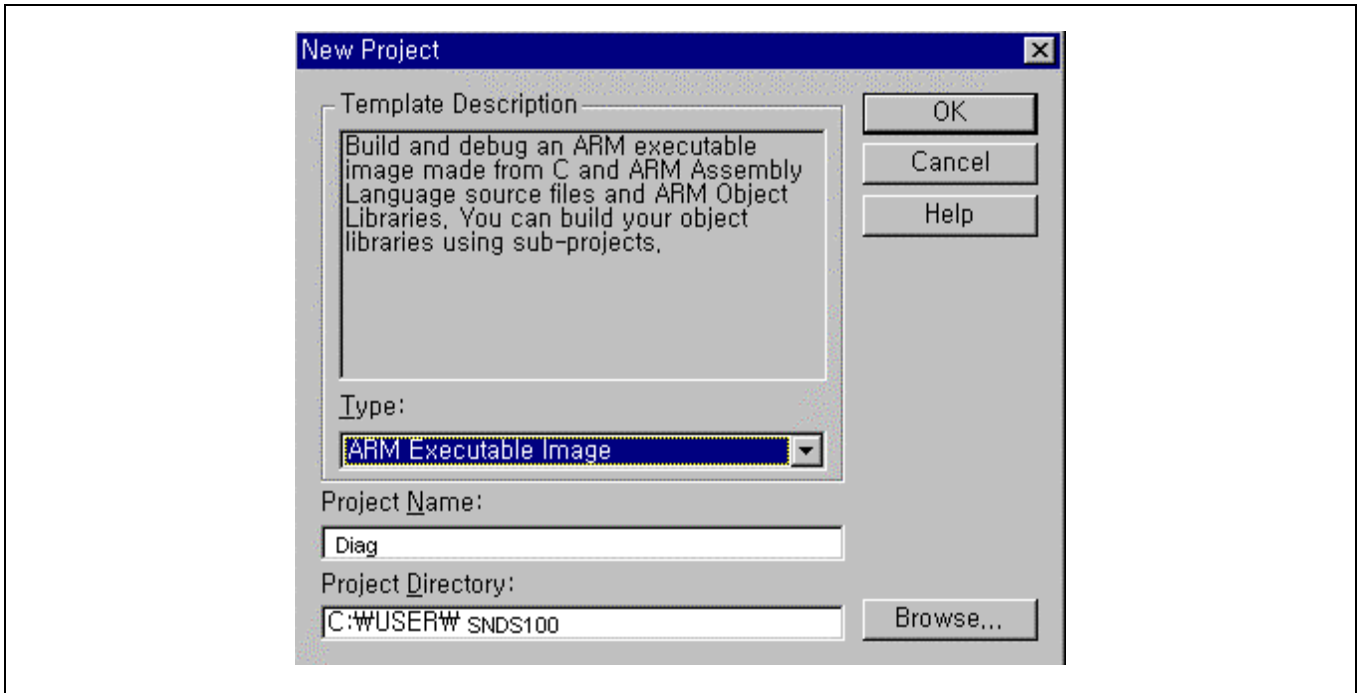

Figure 2-7. New Project Dialog Window
3. Edit New Project dialog box (Figure 2-7)